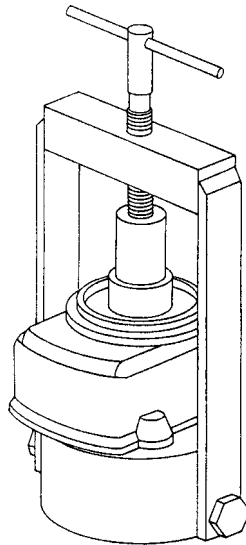

Figure 9.4
- D. Press the oil seal (6) flush into the magneto frame (8) using the T103 oil seal assembly plug and the T-handle screw. (See Figure 9.4).